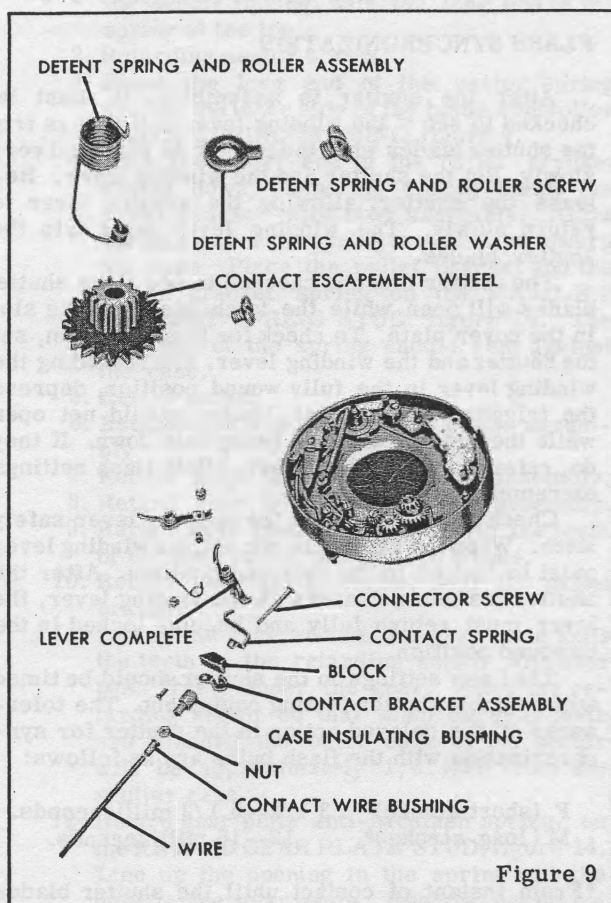

Figure 9
1. CONTACT WIRE BUSHING, figure 9, the contact WIRE, and the connector screw NUT.